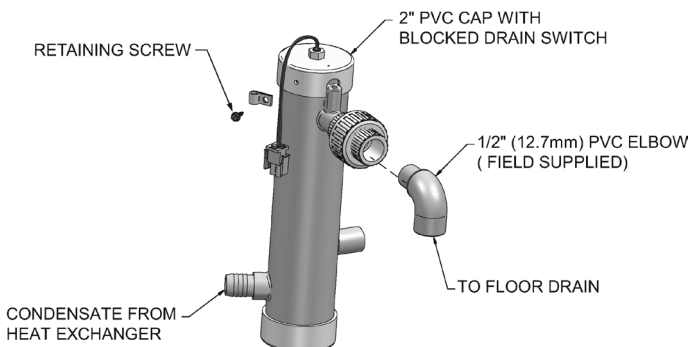

Figure 74. Condensate Trap
1. Remove the PVC cap retaining screw from the PVC cap (Figure 74).
2. Remove the 2 inch PVC cap with the switch located at the top of the trap (Figure 74).
The condensate trap (Figure 74) must be filled with water during all times of water heater operation to avoid flue gas emission from the condensate drain line. Failure to fill the trap could result in severe personal injury or death.